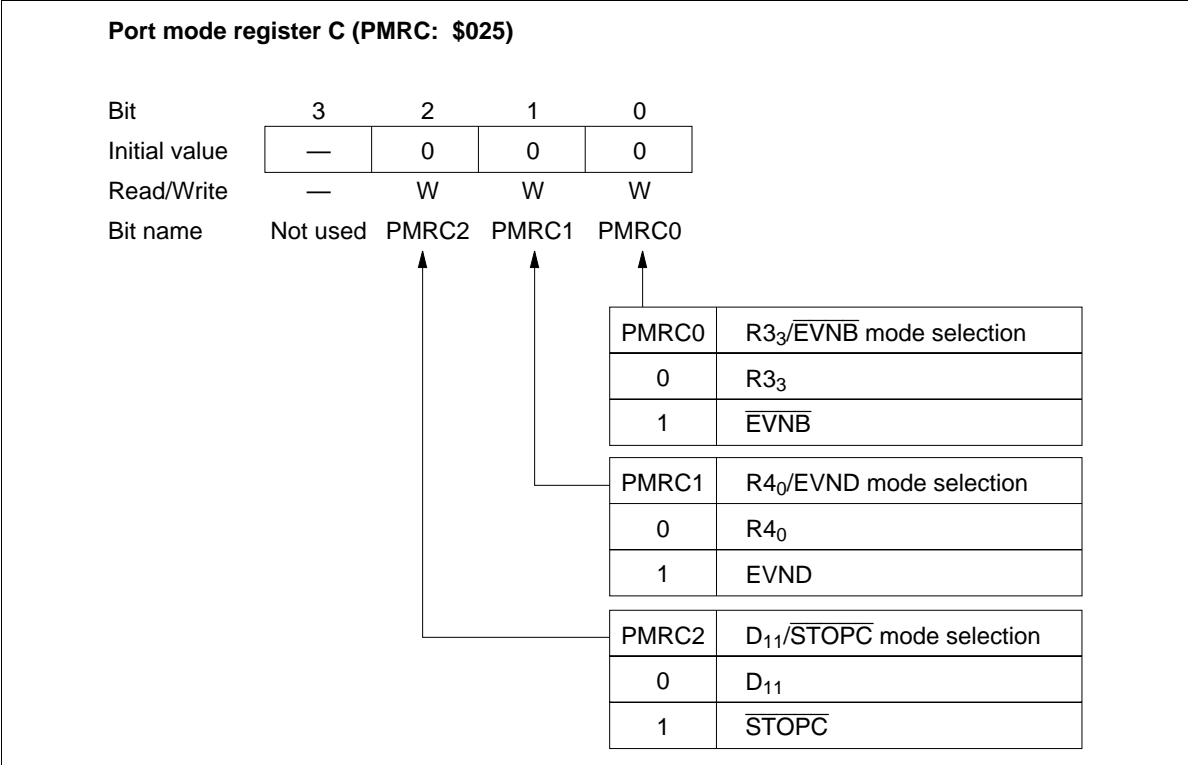

Figure 51 Port Mode Register C (PMRC)
- Port mode register C (PMRC: \$025): Write-only register that selects the R3₃ $\overline{\text{EVNB}}$ pin function (figure 51). It is reset to \$0 by MCU reset.